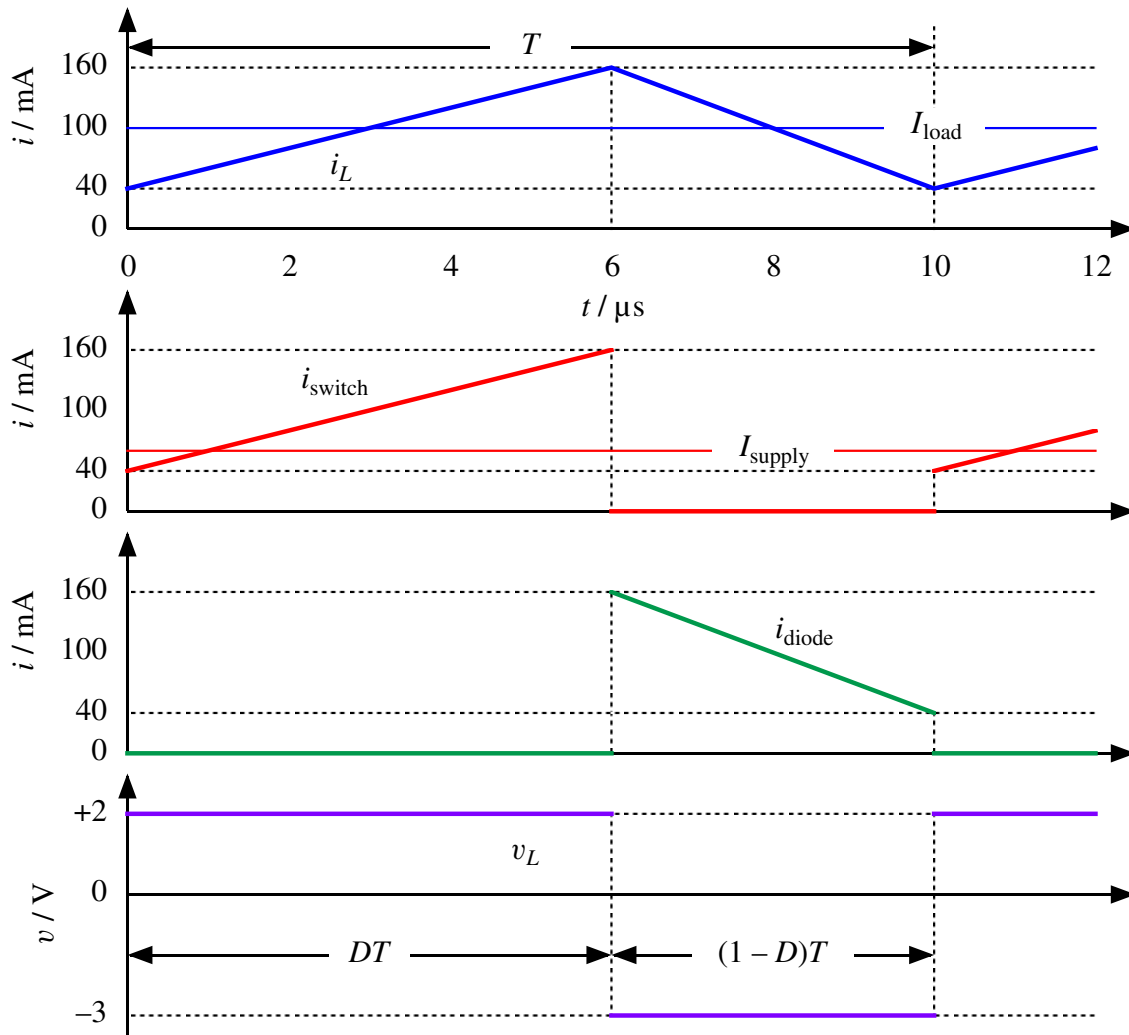

Figure 16. Currents and inductor voltage in a buck DC–DC converter.
- (f) See figure 16 for the sketch. The curve for $i_L(t)$ follows from the calculations and $i_{\text{out}}(t) = i_L(t)$ for a buck converter. The average output current is shown as I_{load} . The current through the switch is the same as the input current, $i_{\text{switch}}(t) = i_{\text{in}}(t)$, and are the same as $i_L(t)$ while the switch is on to charge the inductor. These currents are zero when the transistor switches off and the current flows through the diode instead so $i_{\text{diode}}(t) = i_L(t)$ during discharge.